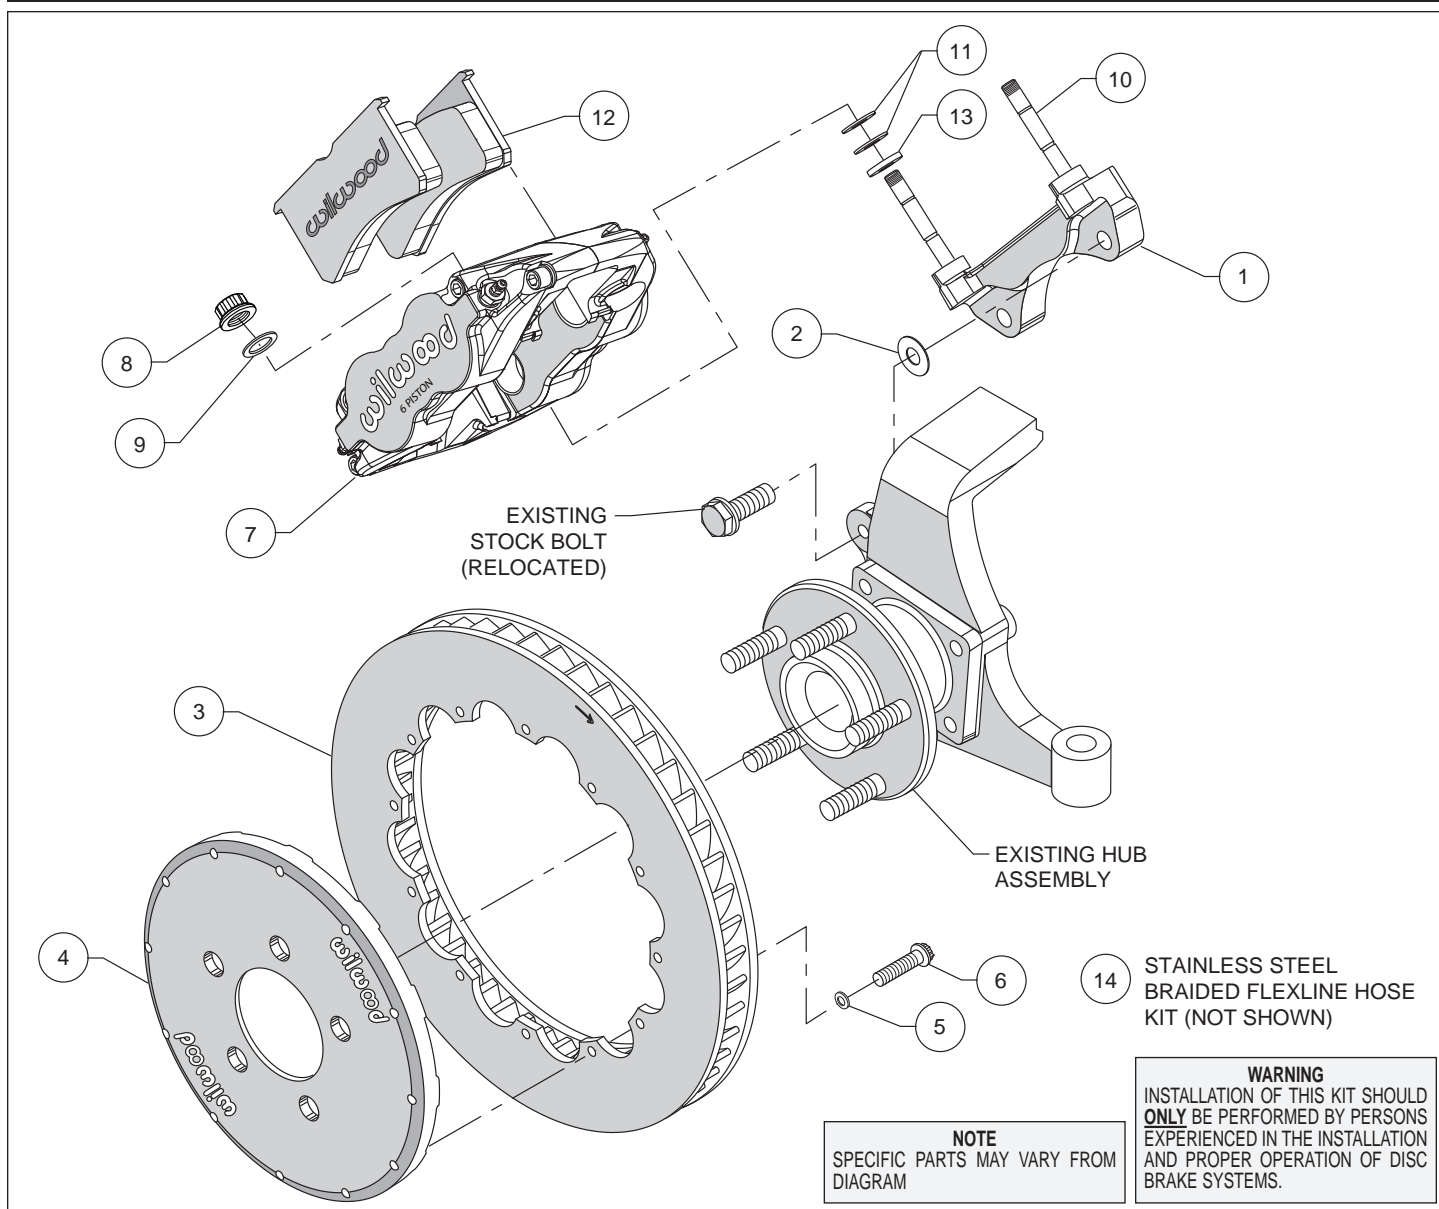
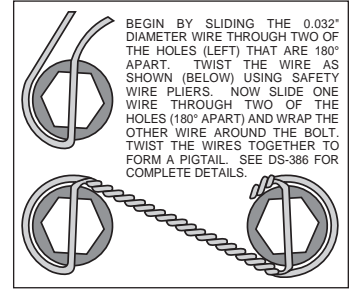

Figure 1. Typical Installation Configuration
Figure 3. Safety Wire Diagram
**Assembly Instructions** (numbers in parenthesis refer to the parts list and Figure 1 on the preceding pages):
- The caliper mount bracket (1) should initially be installed with clean, dry threads on the mounting bolts. Orient the bracket as shown in Figure 1, and install using OEM bolts. Initially place one .033 thick shim (2) on each bolt between the bracket and upright, Figure 1. Temporarily tighten the mounting bolts.
- Orient the rotor (3) and the hat (4) as shown in Figure 1 and Photo 1. Attach rotor to hat using bolts (6) and washers (5). Using an alternating sequence, apply red *Loctite*® 271 to the threads, and torque to 155 in-lbs. The bolts must be safety wired using standard 0.032 inch diameter stainless steel safety wire as shown in Figure 3. Please refer to Wilwood's data sheet DS-386 (available at [www.wilwood.com/Pdf/DataSheets/ds386.pdf](http://www.wilwood.com/Pdf/DataSheets/ds386.pdf)) for complete safety wire installation instructions.
•**NOTE:** This kit contains distinct right and left hand calipers that must be mounted in a specific direction, as described below. Lubricate the caliper mounting studs (10) with lightweight oil. Initially place one .062" thick spacer (13) and two .035" thick shims (11) on each stud as shown in Figure 1 and Photo 2. Mount the caliper (7) onto the bracket (1) using lock nuts (8) and washers (9), Figure 1. Ensure that the caliper is mounted so that the largest pistons are at the rotor exit end of the caliper, in relation to the direction of rotor rotation. Temporarily tighten the lock nuts and view the rotor through the top opening of the caliper. The rotor should be centered in the caliper, Photo 3. If not, adjust by adding or subtracting shims (2) between the bracket and the upright. Always use the same amount of shims on each of the two mounting bolts. Once the caliper alignment is correct, remove the bracket mounting bolts one at a time, apply red *Loctite*® 271 to the threads, and torque to 60 ft-lb.